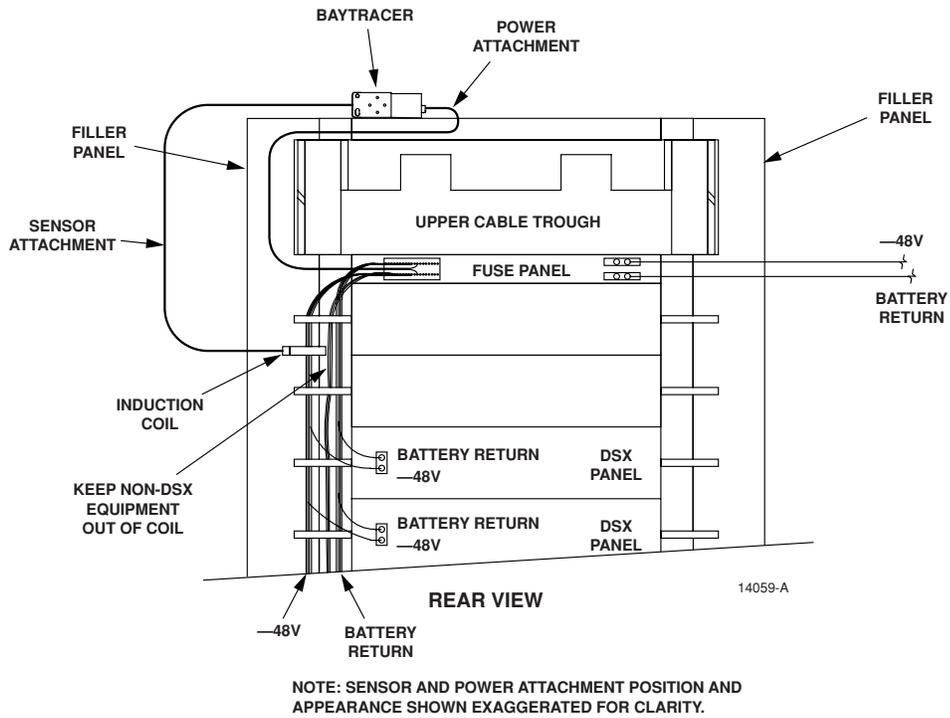

Figure 4. Sensor Cabling Option B
- b. Unsnap the top bar of the inductive pick-up coil. Insert the –48 Vdc conductors for the DSX-only equipment into the inductive pick-up coil as shown in Figure 4, making sure that the label side of the coil faces toward the power source. Snap the top bar back into place after inserting the power feed wire(s). Anchor the power conductor(s) to the inductive pick-up coil with a tie wrap or lacing cord in accordance with local practice.